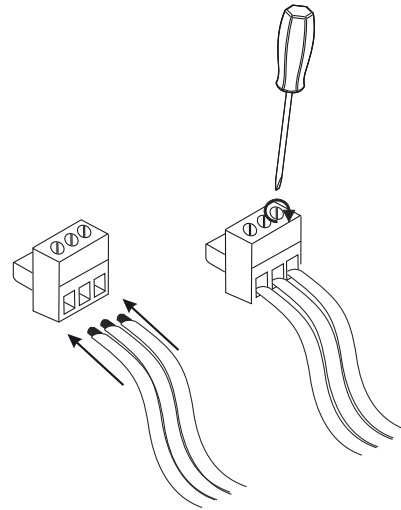

Figure 4-6 Signal Connection Detail
2. Remove sufficient insulation from the cables and insert stripped cables into the appropriate connector. Then tighten the corresponding terminal screw using a flat screwdriver Figure 4-6.